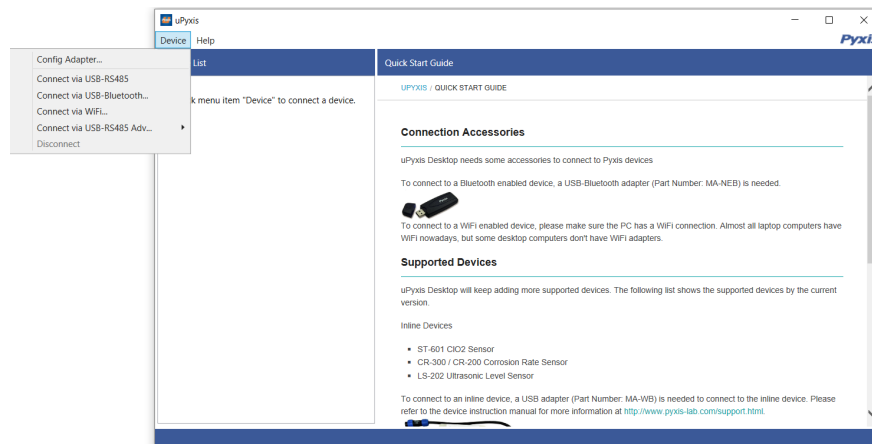

Figure 12.
3. On **uPyxis®** Desktop App, click Device → Connect via USB-Bluetooth (Figure 12).
4. If the connection is successful, the LS-200 and its Serial Number (SN) will be displayed in the left pane of the **uPyxis®** window.